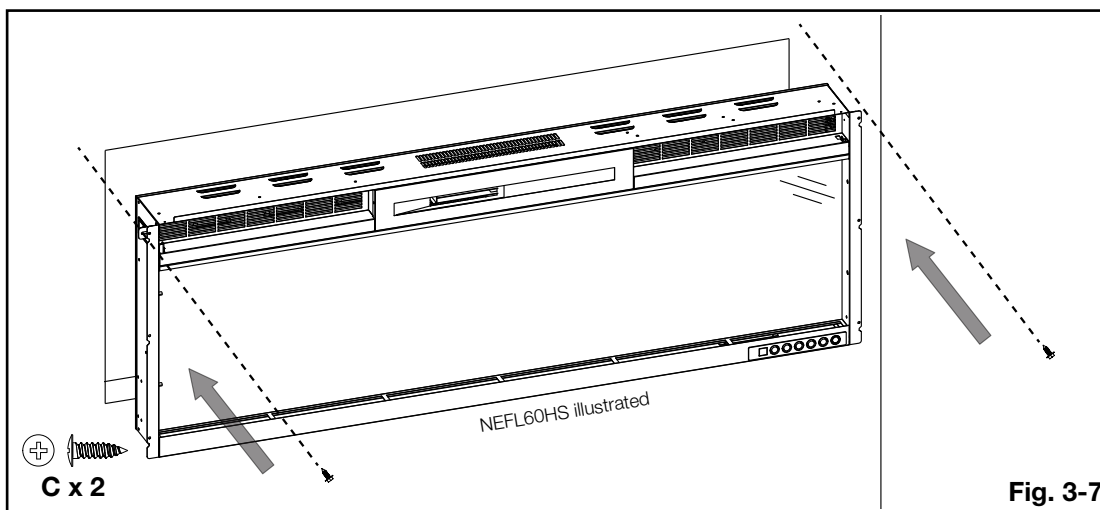

Fig. 3-7
- C. Insert the appliance as far into the rough-in frame as possible/desired, and then secure it by installing 2 screws (supplied) through the metal brackets (**Fig. 3-7**).